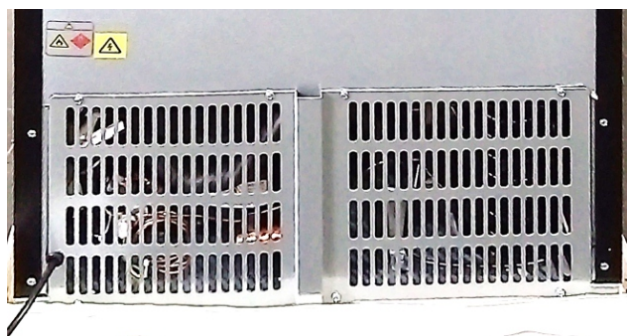

Figure 6: Compressor compartment cover
- Step 2: Looking at the back of the appliance, remove and set aside the fastening screws from the compressor compartment cover. See Figure 6 below.